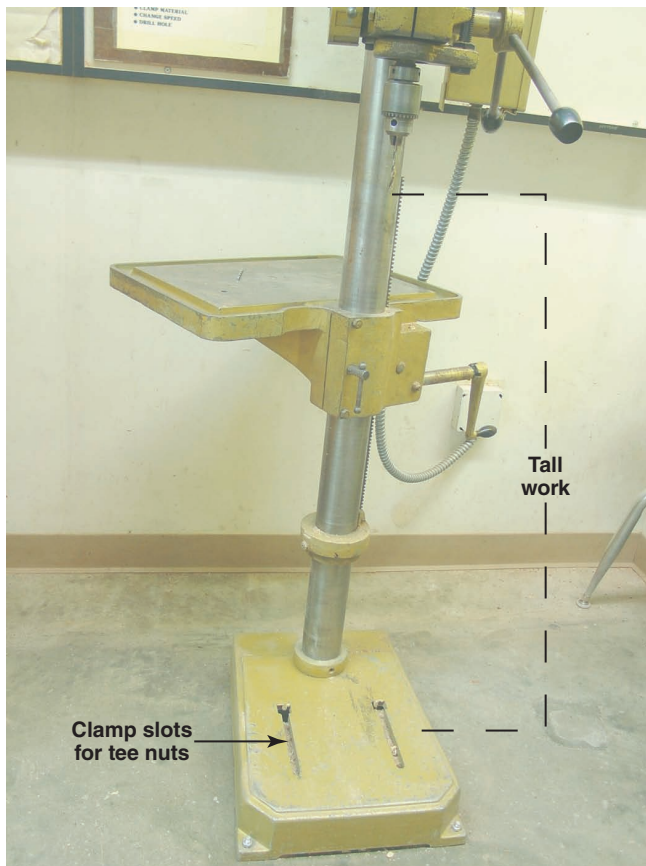

Figure 10-28 A drill press table swung out of the way to accommodate a part too tall to mount on the table.
- C. Horizontally rotating table. The work table can swing around on the column to accommodate different shaped work or to completely clear the table to mount extremely tall work on the base plate (Fig. 10-28).